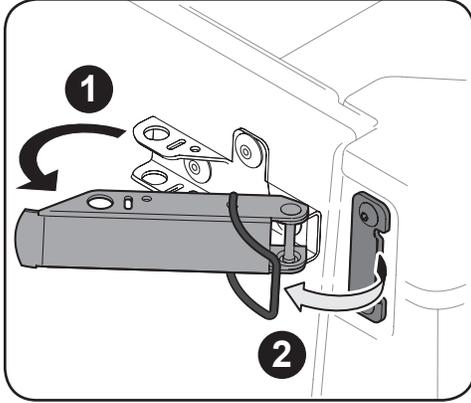
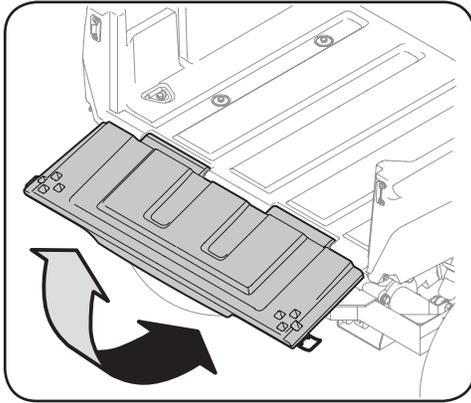
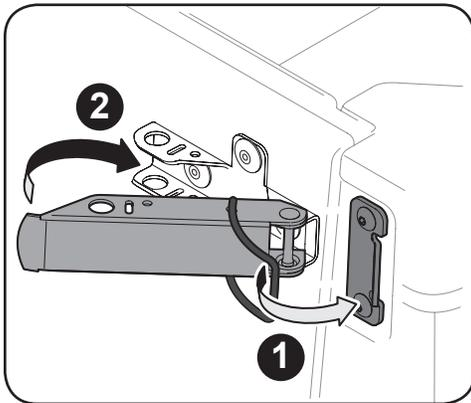

Figure 4-2
Figure 4-3
Figure 4-4
- Unlatch the tailgate from cargo bed and lower. See Figure 4-2 & Figure 4-3.
- Raise and relatch the tailgate to the cargo bed. See Figure 4-3 & Figure 4-4. Do not drive the vehicle with tailgate in the lowered position.